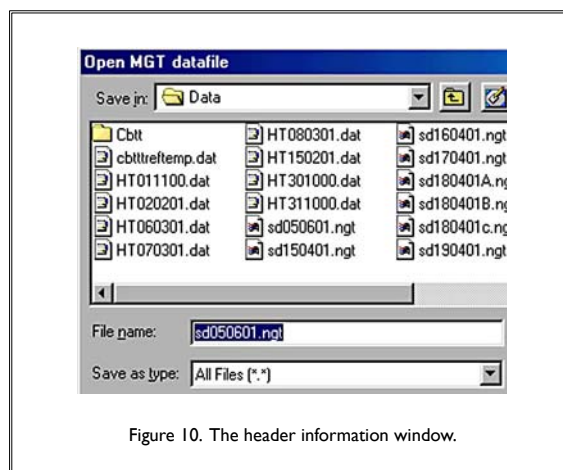

Figure 10. The header information window.
7. Start the application by pressing the arrow in the upper left-hand corner of the application window. A small window, labeled “Header,” will pop up. Fill in the required fields as necessary. An example is shown below in Figure 10.